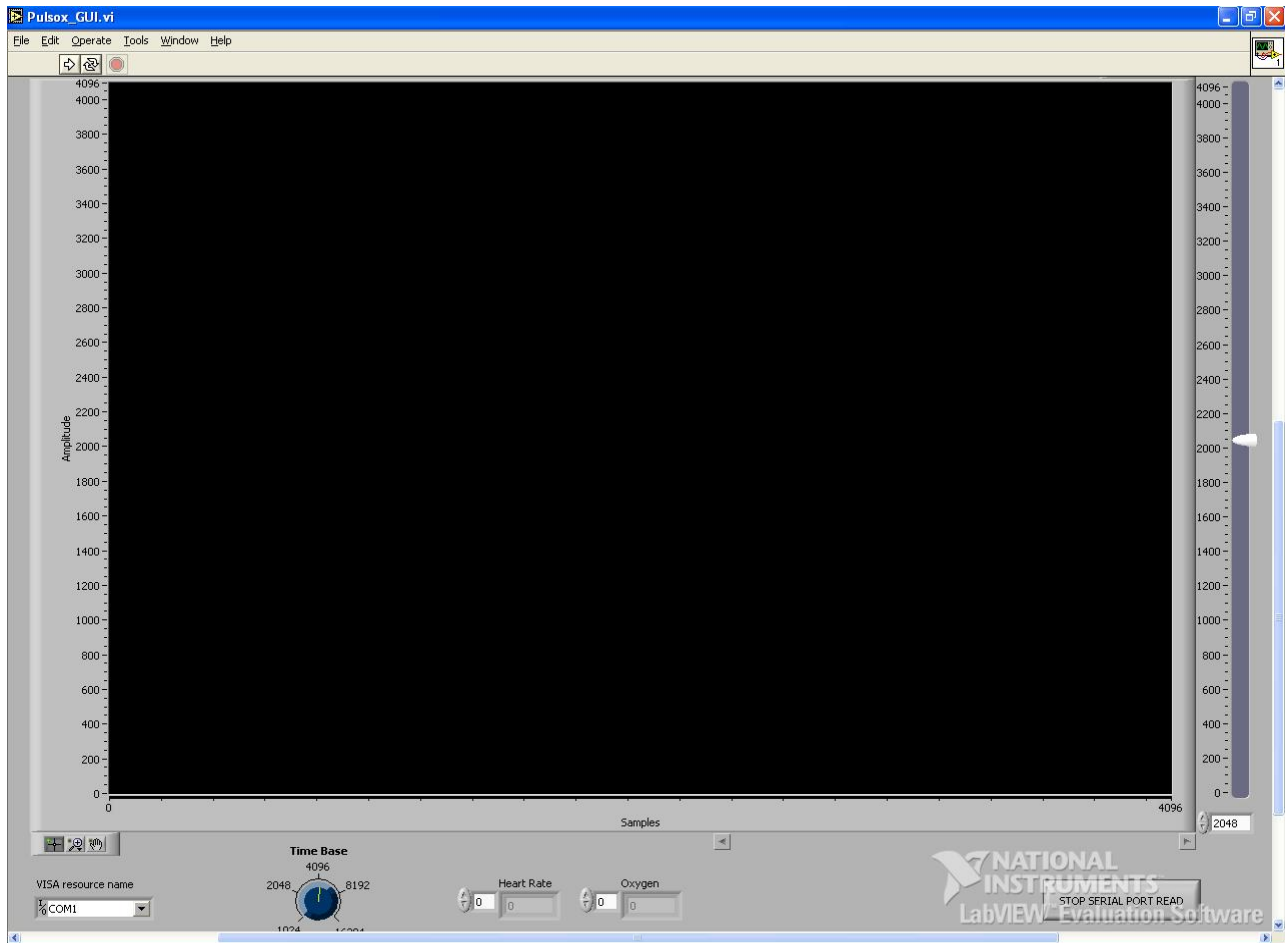

Figure 1. PulseOx Monitor GUI Window
- Selecting the PulseOxMonitor program in All Programs menu displays the GUI window as shown in Figure 1.